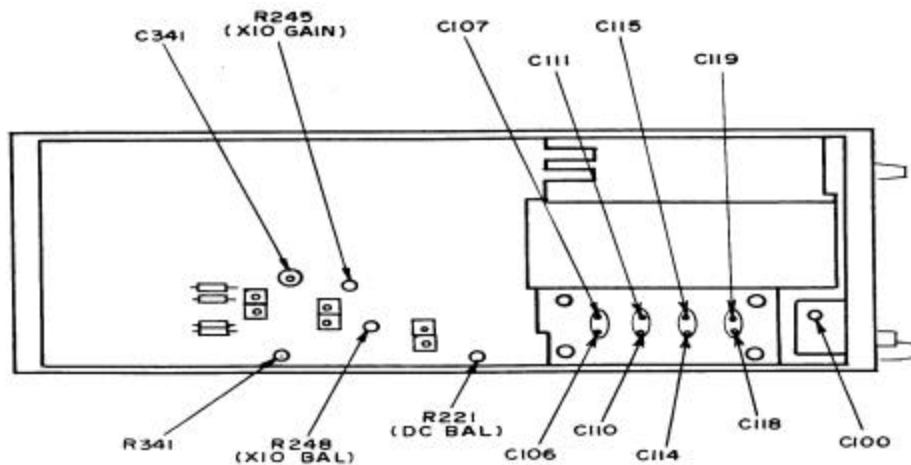

Figure 3. Test instrument - left view.
- c. Position TI controls as listed in (1) through (5) below:
- (1) **POSITION** control to midrange.
- (2) **POLARITY** switch to **+UP**.
- (3) **MAG** switch to **X1**.
- (4) **VOLTS/DIV** switch to **10 mV** and **VARIABLE** control fully cw (detent).
- (5) **AC/GND/DC** switch to **DC**.
- h. Rotate **VARIABLE** control throughout its range. If oscilloscope display shifts more than 0.5 major division, adjust **R221 DC BAL** (fig. 3). for minimum shift as **VARIABLE** control is rotated throughout its range.
i. Set **MAG** switch to **X10**. If oscilloscope display shifts more than ± 1.0 major division from center horizontal graticule line, adjust R248 X10 BAL (fig. 3) for minimum shift while **MAG** pushbutton is moved between **X1** and **X10**.
(2) Adjust R245 X10 GAIN (fig. 3) for oscilloscope indication of 5 divisions of vertical deflection (R).
(1) Set **VOLTS-TS/DIV** switch to **5 mV**.
(2) Connect oscilloscope calibrator **SOURCE/MEASURE CHAN 1** to **TI INPUT**, using standardizer.
(3) Set oscilloscope calibrator **MARKER** output to **1 ms** and rotate oscilloscope calibrator knob located below **EDIT FIELD** pushbutton for 6 divisions of display on oscilloscope .
(4) Set dual time base **TIME/DIV OR DLY TIME** switches to **.2 ms**.
(5) Adjust standardizer for optimum square wave display on oscilloscope. If standardizer has insufficient range, then it will be necessary to remove TI from mainframe to adjust C100 (fig. 3) to midrange, reinstall TI, then readjust standardizer for optimum square wave (R).
(6) Set **VOLTS/DIV** switch to positions listed in table 6 and repeat technique of (3) above. If oscilloscope does not display an optimum square wave at each switch position, perform the appropriate adjustment listed in table 6.
VOLTS/DIV switch settings	Adjustments (fig. 3) (R)
(1) Set **VOLTS/DIV** switch to **50 mV**.
(2) Connect oscilloscope calibrator **SOURCE/MEASURE CHAN 1** to **TI INPUT**.
(3) Set oscilloscope calibrator **EDGE** output to **1 ms** and rotate oscilloscope calibrator knob located below **EDIT FIELD** pushbutton for a convenient display on oscilloscope.
(4) Adjust dual time base controls as listed in (a) through (c) below:
(5) Measure risetime using standard risetime technique. If risetime is not 5.4 ns or less, perform **b** below.
b. Adjustments. Adjust C341 and R341 (fig. 3) for optimum square wave (R).